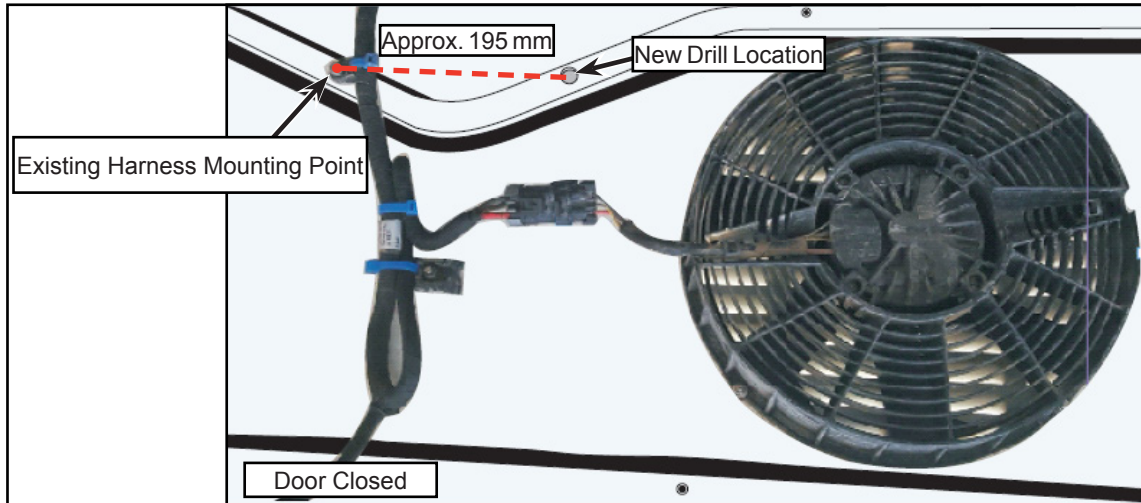

Figure 5 - Typical View of Door Structure
- 1.10. Mark a drill point directly in the middle of the structure beam. Distance between 2 points must be approx. 195mm (see Figure 5).